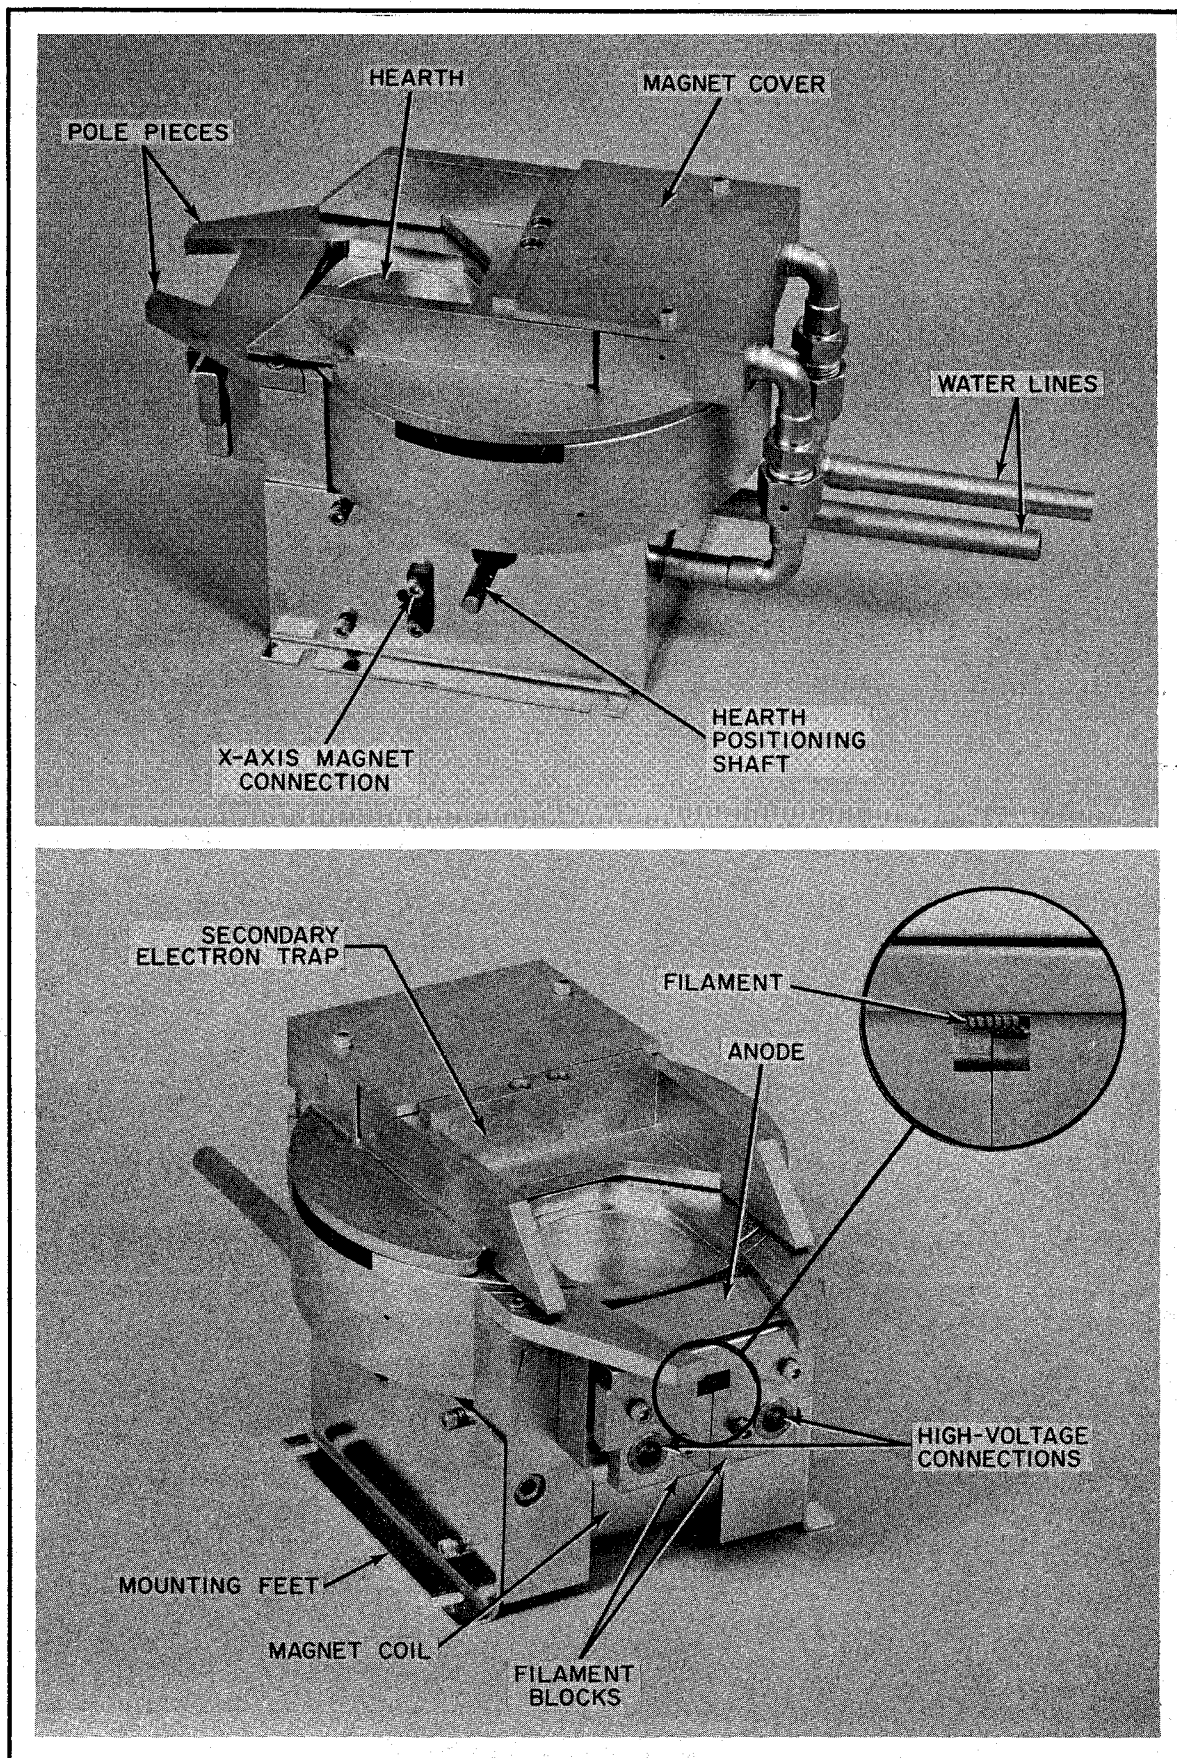
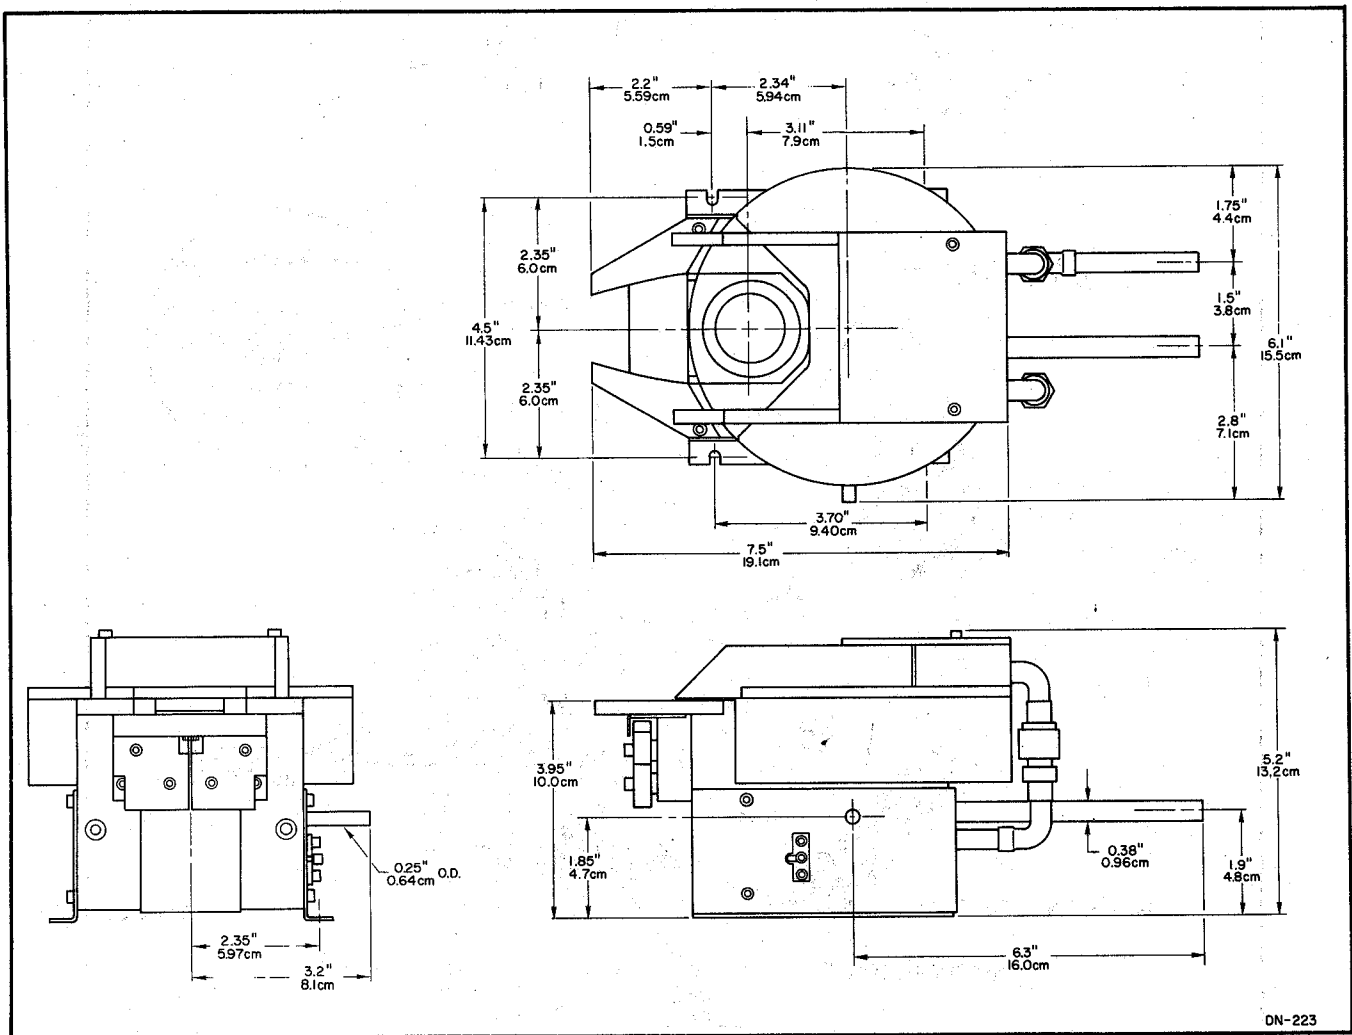

Figure 1-1. Sloan Multihearth Electron Beam Gun, 270° Bent Beam.
Figure 1-2. Dimensional Drawing of Multihearth Electron Beam Gun, 270° Bent Beam.
Figure 1-1 illustrates the 270° Multihearth Electron Beam Gun and shows its major components. Figure 1-2 provides all critical gun dimensions, as an aid to installation.
- (2) Complete all necessary machining operations on the baseplate or feedthrough collar. Size 6-32 or 8-32 stainless steel machine screws and washers are adequate for mounting the gun. Figure 1-2 provides all necessary dimensions for locating the tapped mounting holes precisely with respect to the center of the hearth.
- (3) Cut the copper inlet and outlet water lines to the length desired. If the lines are to be bent, the bends should start no closer than 1/2 inch (1.3 cm) from the gun and undue strain should not be placed on the tube-to-gun joint.
- (7) Connect the hearth-positioning shaft to the exterior of the chamber through a rotary feedthrough, an extension shaft, and (preferably) two universal joints. The location of the shaft on the side of the gun is shown in Figure 1-1. The end of the 1/4-inch (0.635 cm) diameter shaft is fitted with a milled flat to give positive engagement.
- (8) Connect the electromagnet lead from the service feedthrough to the connector on the side of the gun. (See Figure 1-1 for location.) Maximum electromagnet current requirement is 3.0 amperes. Route the lead in such a manner that it will not be shorted to ground by the tooling or shielding, or insulate it